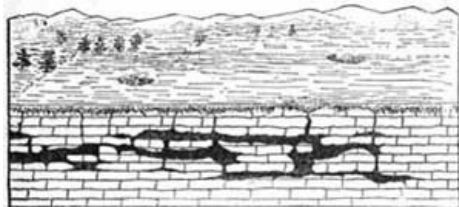

FIG. 30.—Showing how caves and holes are formed by the solvent action of water. [71]
**65. Destructive Action of Water.** The action of water in stream and sea, in springs and wells, is evident to all; but the activity of ground water—that is, rain water which sinks into the soil and remains there—is little known in general. The real activity of ground water is due to its great solvent power; every time we put sugar into tea or soap into water we are using water as a solvent. When rain falls, it dissolves substances floating in the atmosphere, and when it sinks into the ground and becomes ground water, it dissolves material out of the rock which it encounters (Fig. 30). We know that water contains some mineral matter, because kettles in which water is boiled acquire in a short time a crust or coating on the inside. This crust is due to the accumulation in the kettle of mineral matter which was in solution in the water, but which was left behind when the water evaporated. (See Section 25.) [70]
Rocks and minerals are not all equally soluble in water; some are so little soluble that it is years before any change becomes apparent, and the substances are said to be insoluble, yet in reality they are slowly dissolving. Other rocks, like limestone, are so readily soluble in water that from the small pores and cavities eaten out by the water, there may develop in long centuries, caves and caverns (Fig. 30). Most rock, like granite, contains several substances, some of which are readily soluble and others of which are not readily soluble; in such rocks a peculiar appearance is presented, due to the rapid disappearance of the soluble substance, and the persistence of the more resistant substance (Fig. 31).